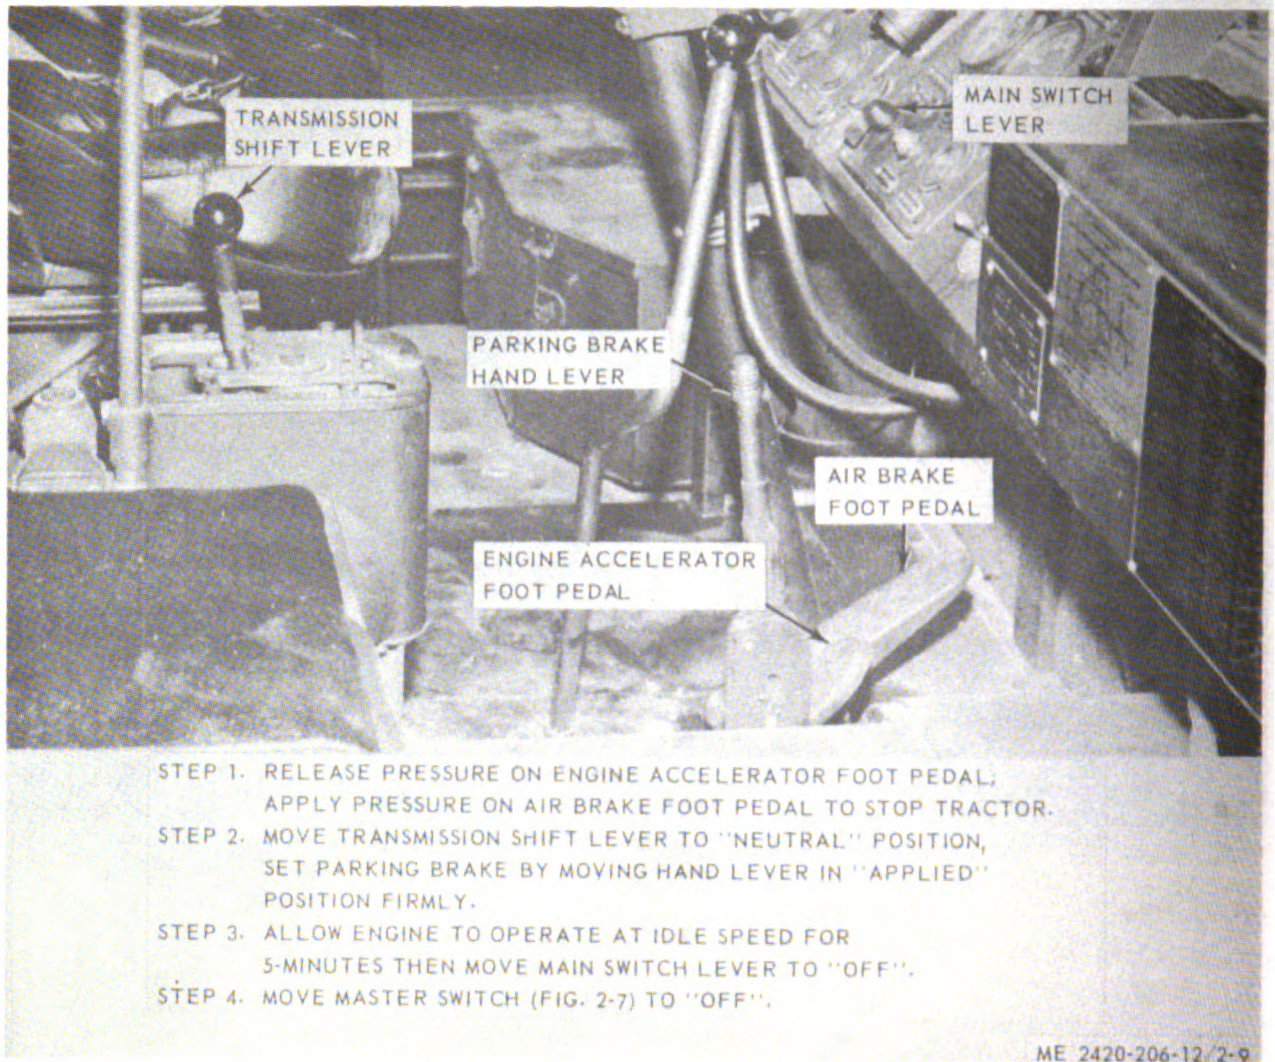

Figure 2-9. Tractor stopping instructions.
a. Stop tractor in numerical steps. figure 2-9.